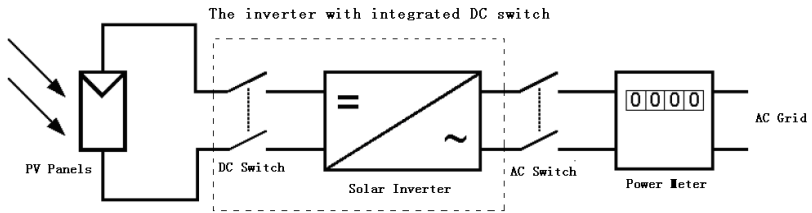

Fig.6 The PV system diagram
- C. DC Switch and AC Switch: “DC switch” is between PV Panels and solar inverter while “AC Switch” is between AC Grid (Utility) and solar Inverter. They are simplified in this diagram. In fact, they may consist of electrical breaker, fuse and connecting terminals. To comply with local safety standards and codes, the connection system should be designed and implemented by a qualified technician. JFY-tech also provides the solar inverter with an integrated DC switch demonstrated in dashed border in Fig.6. –S suffix indicates the inverter is integrated a DC switch in PV input side.